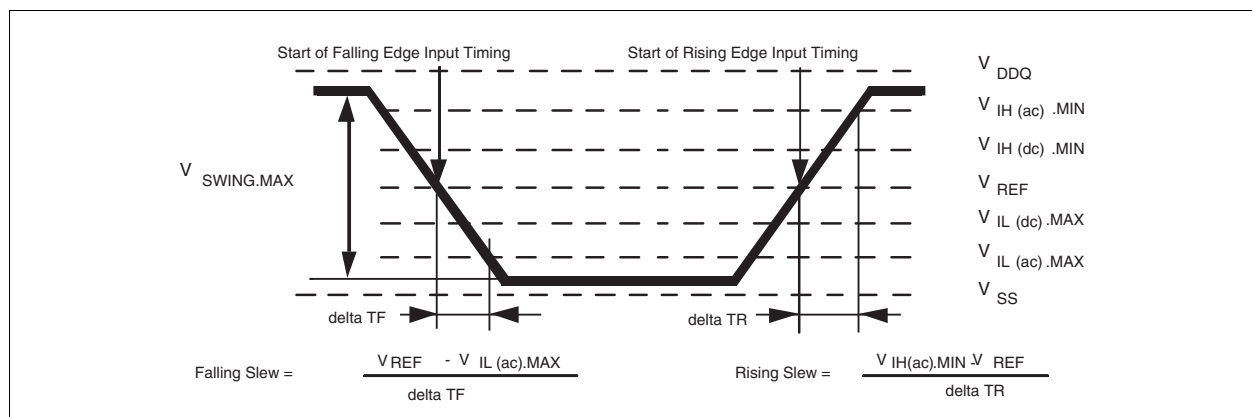

Figure 64 Single-ended AC Input Test Conditions Diagram
- 2) The input signal minimum Slew Rate is to be maintained over the range from $V_{IH(ac),MIN}$ to V_{REF} for rising edges and the range from V_{REF} to $V_{IL(ac),MAX}$ for falling edges as shown in Figure 64